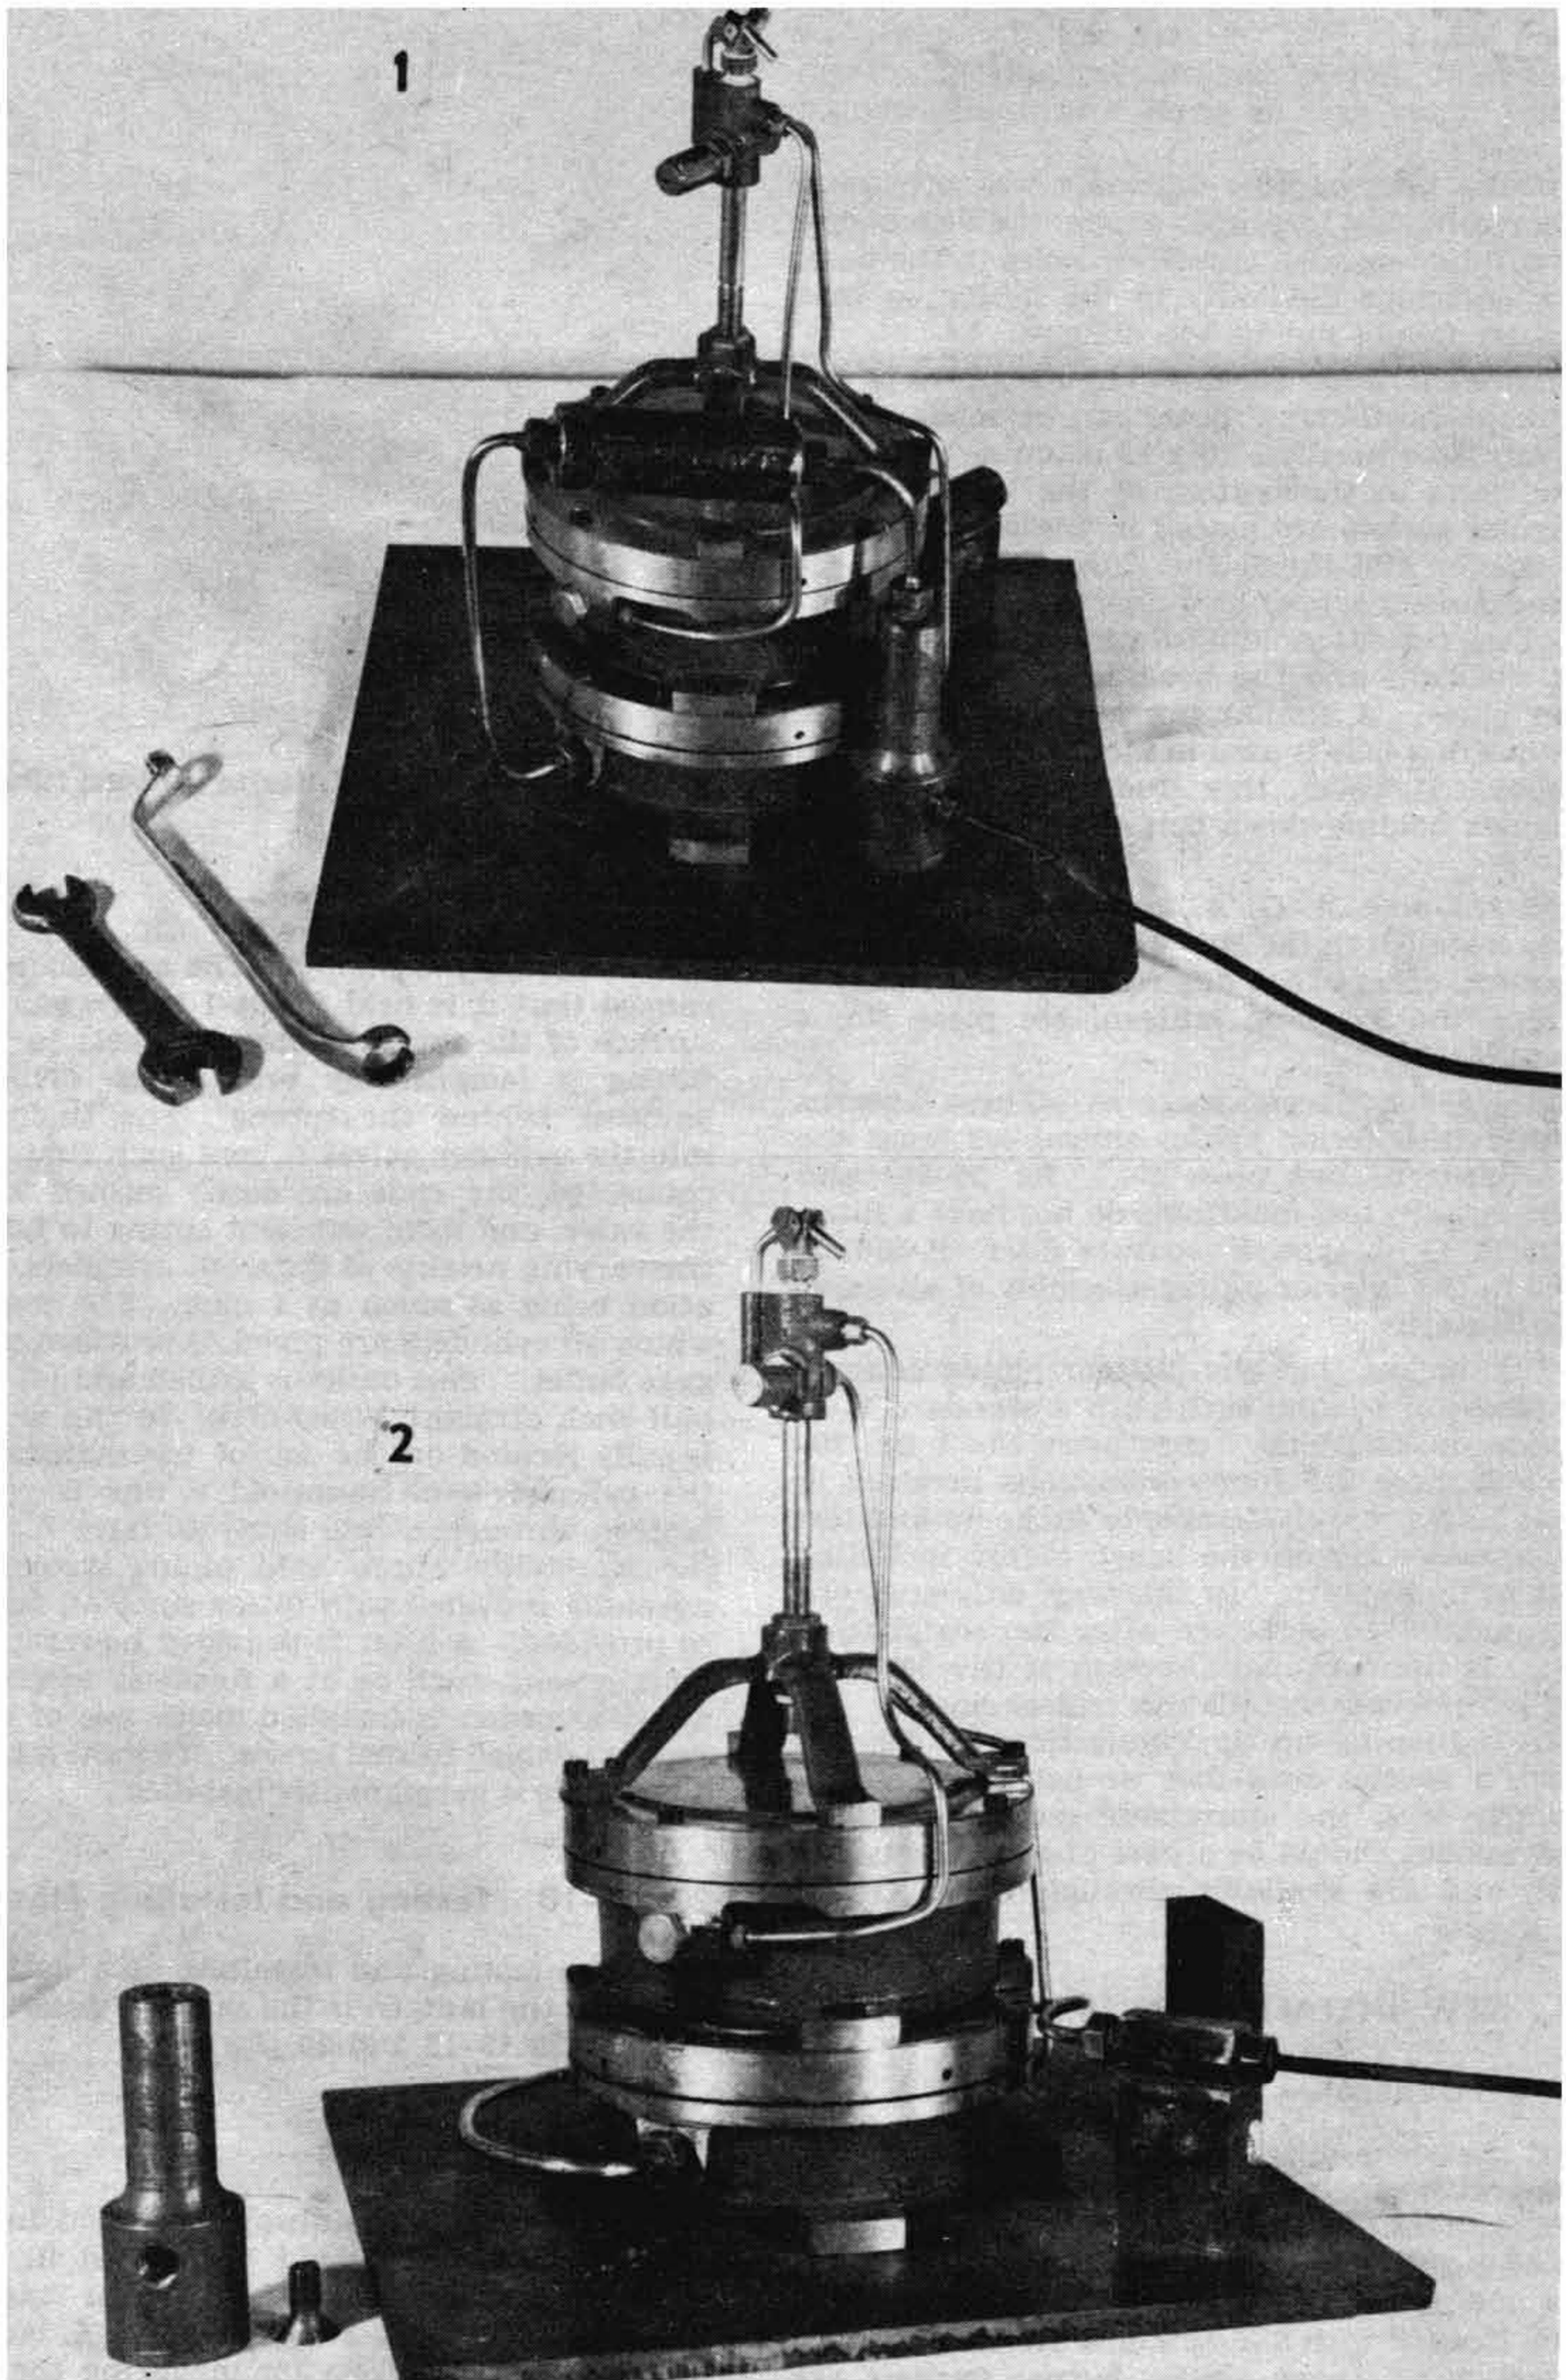

FIGURE 20-73.—Flasher test jig.
C. Shop-test jig.—In the shop, where lanterns are overhauled and made ready for buoys or minor lights, it is advantageous to construct a jig for setting up and testing interior lantern flasher piping. The jig should be made up to simulate the interior conditions in a lantern base, such as a steel plate with four pins on which to set the flasher, and inlet fittings in the same relative position as the lantern test valves. By hooking this unit up to an acetylene line, the entire assembly is tested before installing in the lantern. The use of such a test jig is shown by figure 20-73 (1) to simulate Service-type lantern piping. In figure 20-73 (2) the flasher is equipped with the regular A. G. A. interior piping for use in the A. G. A. lantern.